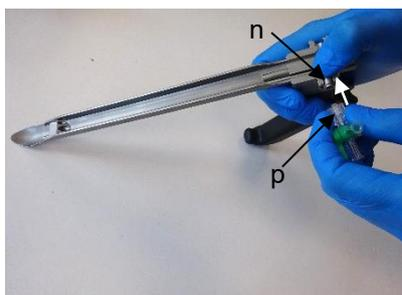

Fig. 9a
- The Luer lock connection with union nut (p) must be placed on the thread of the Luer lock connection of the suction tube (n) when fixing (Fig. 9a) and tightened clockwise with moderate manual force (Fig. 9b).